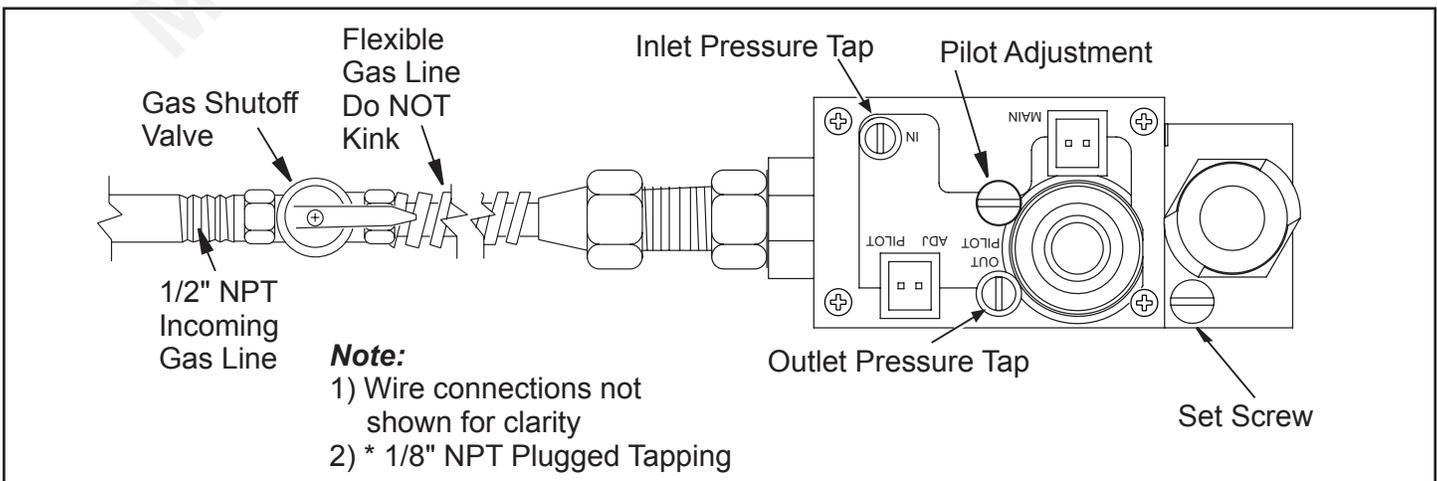

Figure 27 - Connecting Incoming Gas Line to Flex Gas Line
2. Attach flexible gas line from gas supply to control valve (see Figure 27).